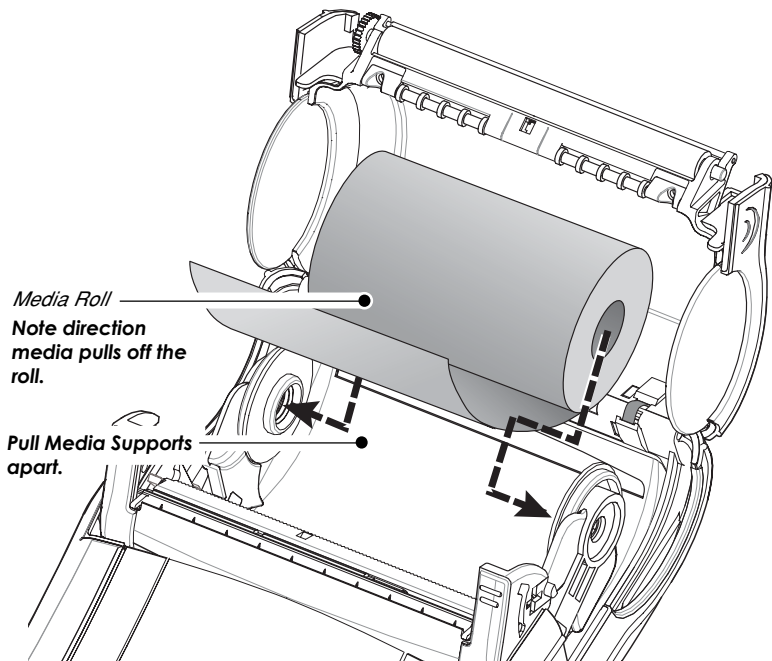

FIGURE 6: INSTALLING MEDIA IN THE QL 420
Loading media from an internal supply. Refer to Figure 6.
- Pull the media supports apart, insert the roll of media between them, and let the media supports close. Insure that the media pulls off the core in the direction shown in Figure 6. The supports will adjust themselves to the width of the media, and the media should be able to spin freely on the supports.